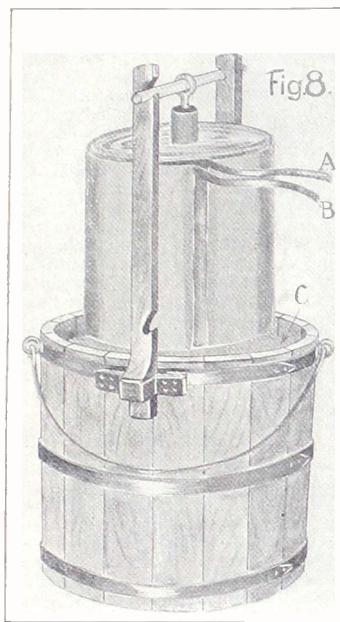

Fig. 8.
23. The spiral battery is one which can be easily made at home. Very thin strips of zinc compose the positive plate, while thin strips of copper compose the negative plate. These plates are wound in spiral fashion, as is shown in Fig. 8. A is the copper plate, while the B is the zinc plate. These plates are placed very close to each other, but in no way touching. Sulphuric acid, which has been diluted with about 7 parts of water to one part of acid, is used as the active solution. The plates are dipped into the solution and then taken out. It is a very cumbersome affair, as you will note. It affords, however, an interesting experiment at home.